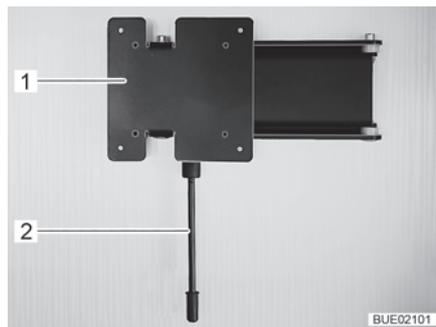

Fig. 91 Wall holder
- Pull down the release lever (Fig. 91,1) and turn the holder (Fig. 91,2) with the flat screen to the desired position.